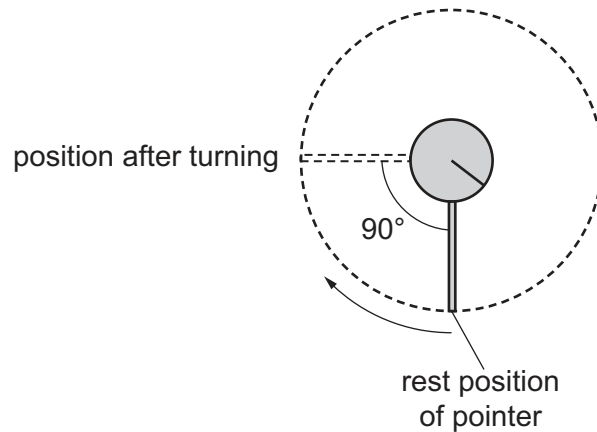

Fig. 4.2 (viewed from above)
- (a) By pushing against the end of the pointer, rotate the mass hanger to the left through a quarter of a turn in a clockwise direction as shown in Fig. 4.2.